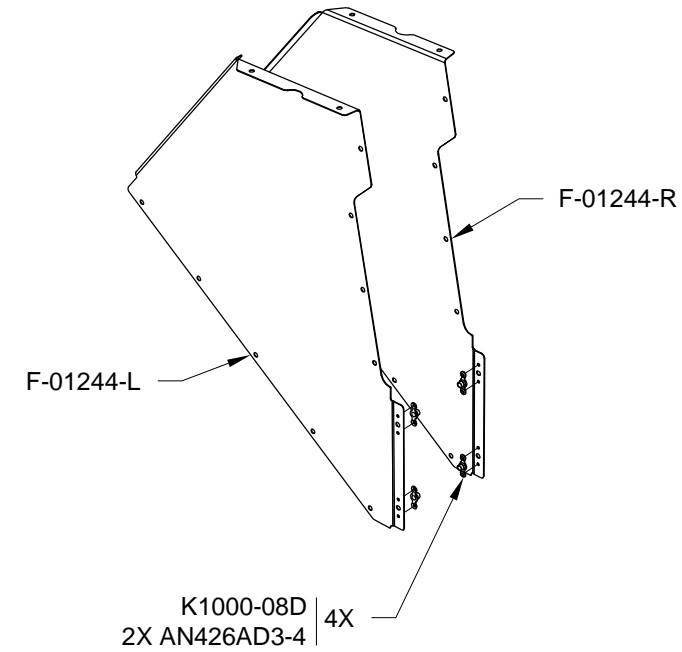

FIGURE 3: TUNNEL FWD SIDE COVER PERPARATION
Step 4: Dimple #40 the nutplate rivet holes in the F-01244-L and F-01244-R as shown in Figure 3, then rivet the nutplates in place.